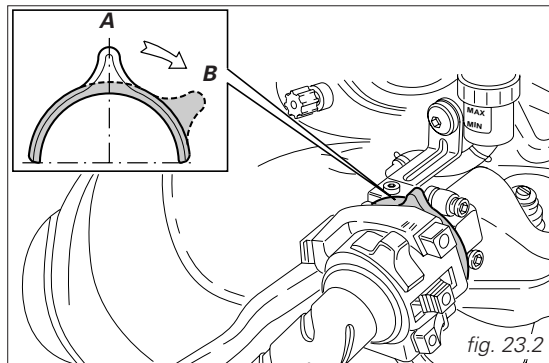

fig. 23.2
2) Move the cold start lever to the B position (fig. 23.2).